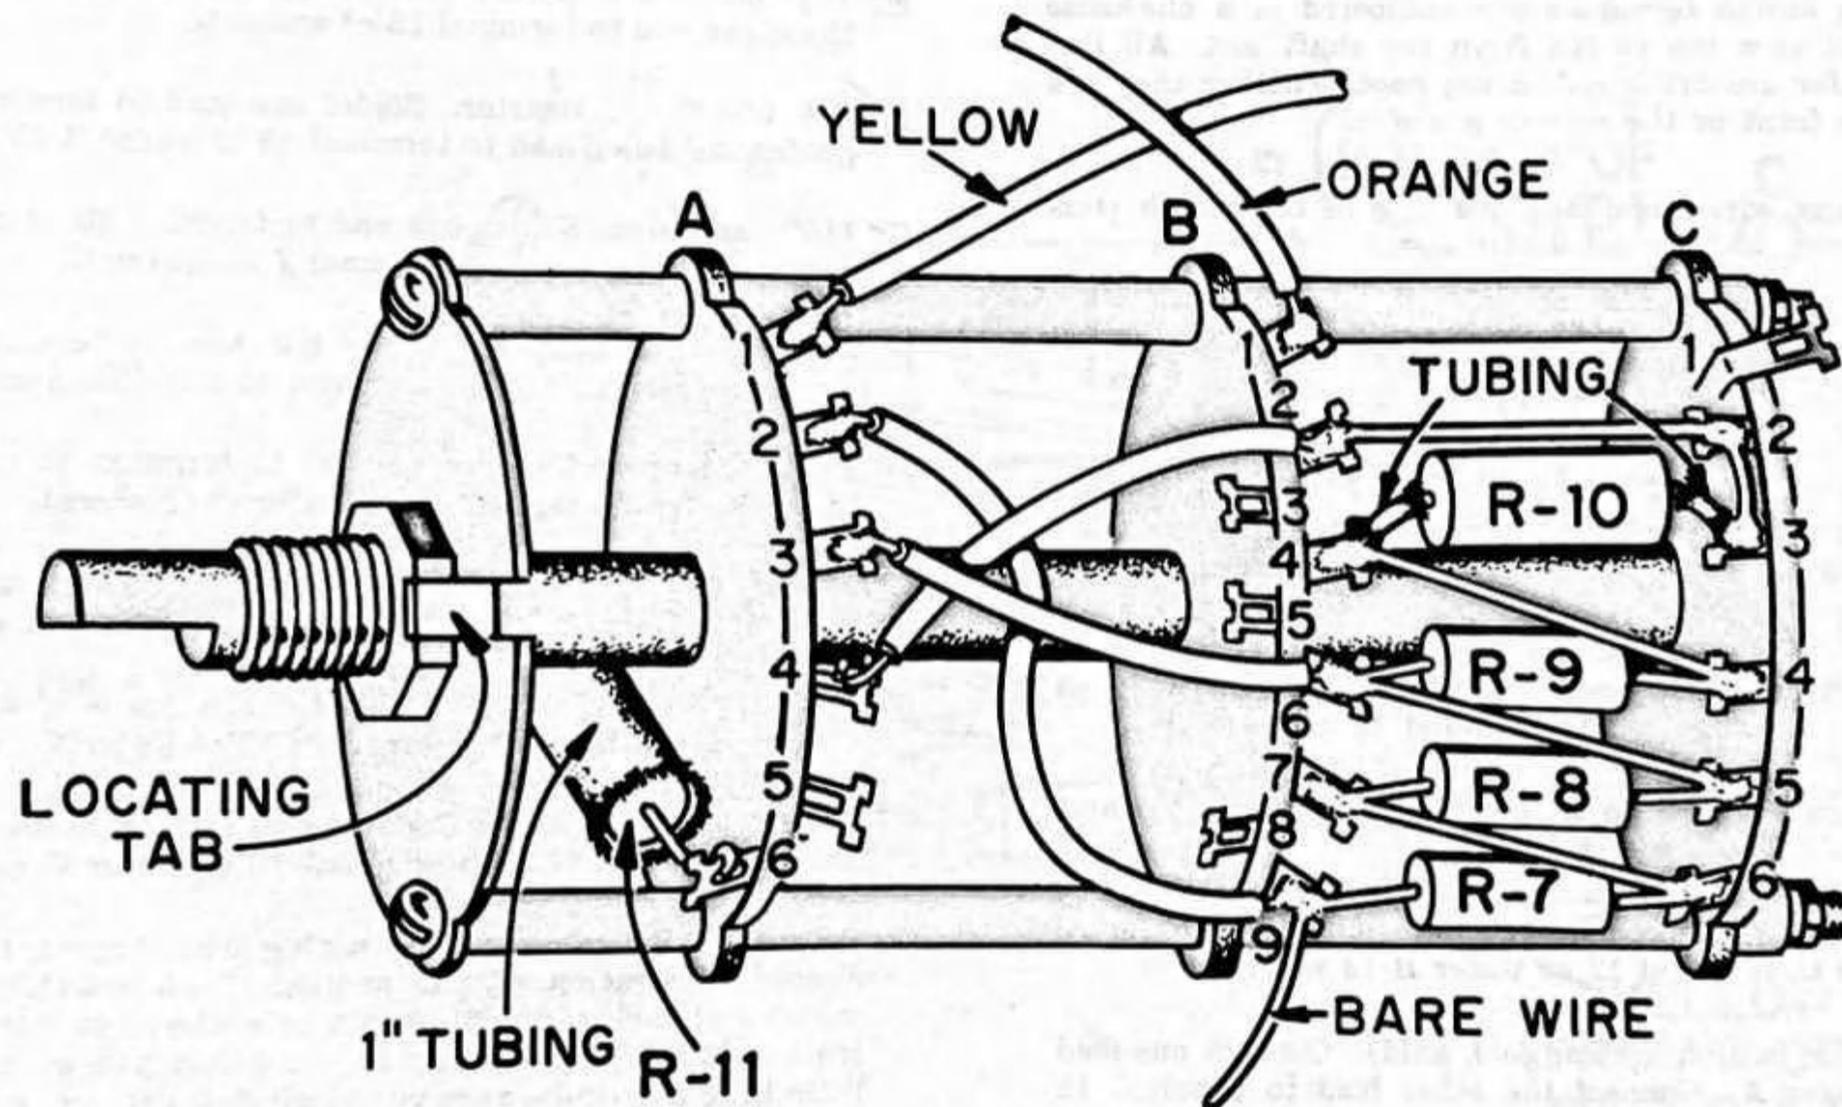

FIGURE 10. FIRST WIRING OF THE RANGE SWITCH, S-2
SEE FIGURE 10, ALSO FIGURE 11 ON A SEPARATE SHEET
- S-2 RANGE SWITCH. This is the longer of the two switches. Position the switch as shown in Figure 10, with the locating tab facing you.
- Now, compare your switch with Figure 10 on the facing page. Are all resistor leads short? Does your wiring look neat and does each solder connection have a shiny, metallic finish? Be sure this much of your switch is correctly wired before proceeding.